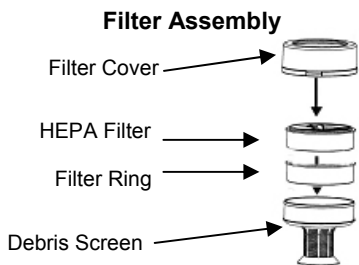

Fig. 15
- To remove the exhaust filter cover, depress the filter cover lock and pull the filter cover out. Remove the filter. (Fig. 15)
2. To separate the filter assembly, hold the bottom of the debris screen and pull the filter cover out. Then remove the HEPA filter with the filter ring from the debris screen (Fig. 15)